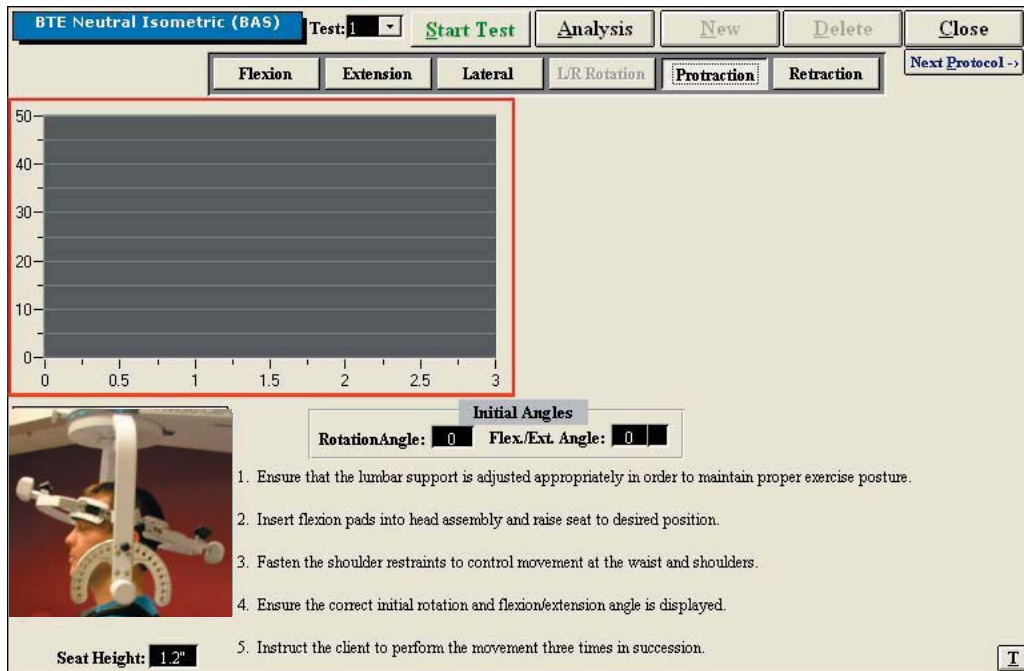

Figure 6-85. Cervical Strength - Protraction Test
Step 1. Select the **Protraction** icon. The Protraction Testing screen will appear (Figure 6-85). Note that the screen shown in the figure may differ from that on the computer.